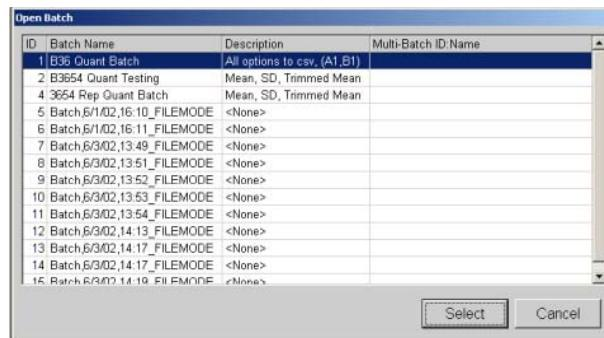

Figure 5-60. Open Batch Dialog Box—Select Batch
1. On the **File** menu, click **Export Batch Data**. The **Open Batch** dialog box opens. See Figure 5-60.